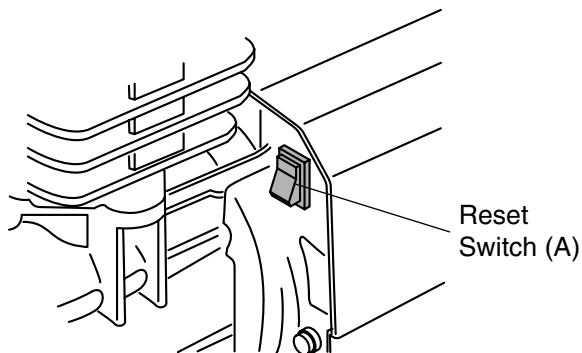

Fig. 6
3. Wait approximately 5 minutes, then press the reset switch (A) of the thermal protector (see Fig. 6).